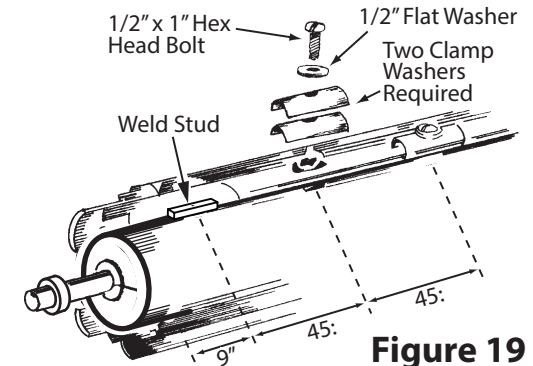

Figure 19
- The top slat will have slots to attach to barrel. Hook curtain over studs and fasten with 5/16" round head screws and washers and TWO clamp washers provided. See Figure 19.